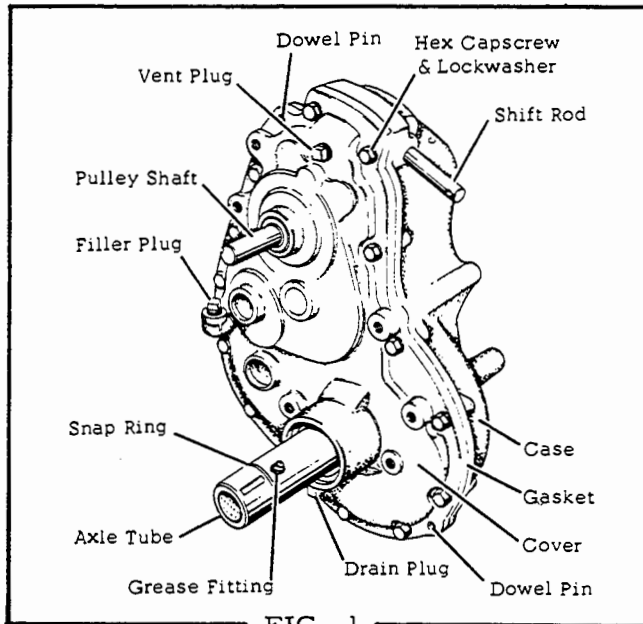

FIG. 1
3. Remove the rear light from the tractor seat back by removing the hex capscrew holding the light mounting bracket to the seat back. Remove the cable clip from the R. H. arm assembly as shown in Fig. 1. This clip is held in place by a hex capscrew, flat washer, lockwasher and hex nut.
4. Remove the hex capscrew and lock nut from each arm assembly at point "A" as shown in Fig. 1. The seat assembly may now be lifted free of the tractor.
2. Remove the 14 hex head capscrews and lockwashers from around the edge of the transmission cover. Drive the 2 dowel pins down into the transmission case holes and insert a screw driver at several points between the cover and the case and pry upwards to break the cover loose from the case. See Fig. 1. When cover is free, lift off.